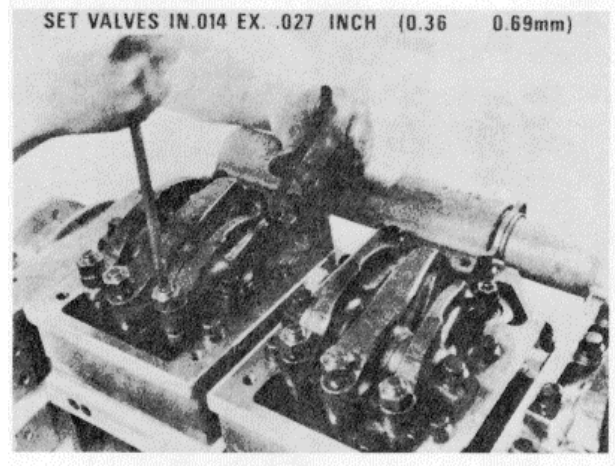

Figure 16N-68. Adjust the Valves
2. Turn the adjusting screw down until the rocker lever just touches the feeler gauge, Figure 16N-68. In this position, tighten the locknut to the same value as the injector locknuts.